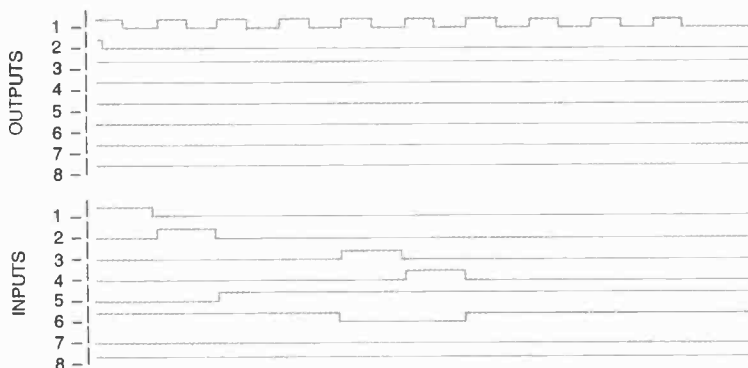
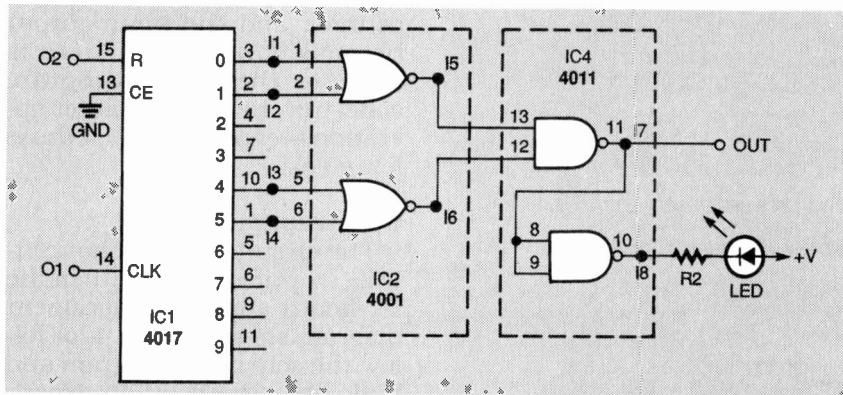
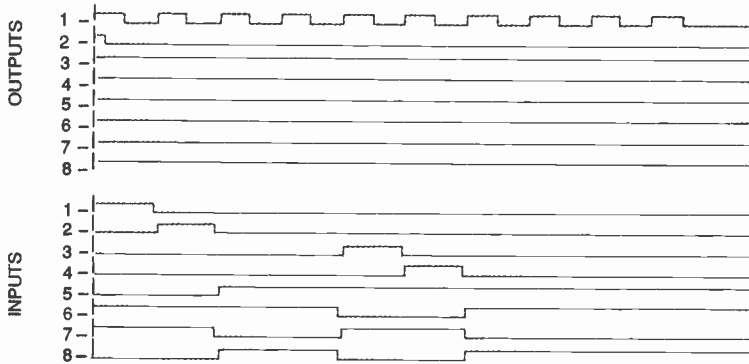

FIG. 8—RESULTING BIT PATTERN. The immediate problem is that the LED does not light, verified in the bit pattern showing that inputs 17 and 18 are not switching.
FIG. 9—A NAND FUNCTION will produce a low logic level when the two inputs are high, and produce a high logic level otherwise. Here's the revised circuit.
FIG. 10—RESULTANT BIT PATTERN of the circuit in Fig. 9.
The bit pattern obtained is shown in Fig. 8. The fault with the circuit was that the LED would not light. The problem is verified in the bit pattern showing that inputs 17 and 18 are not switching. However, the outputs of IC1 are performing as expected, and the outputs of the first two NOR gates (15 and 16) are also valid. Re-examining the circuit with the help of the analyzer reveals the fault: At least one of the inputs (15 and 16) to the third NOR gate (17) is always logic high. That makes the output always logic low. The circuit really needs a NAND function to produce a low logic level when the two inputs are high, and to produce a high logic level at other times. The solution is to change the circuit to incorporate a NAND gate. The revised circuit is shown in Fig. 9, and the resultant bit pattern is shown in Fig. 10.